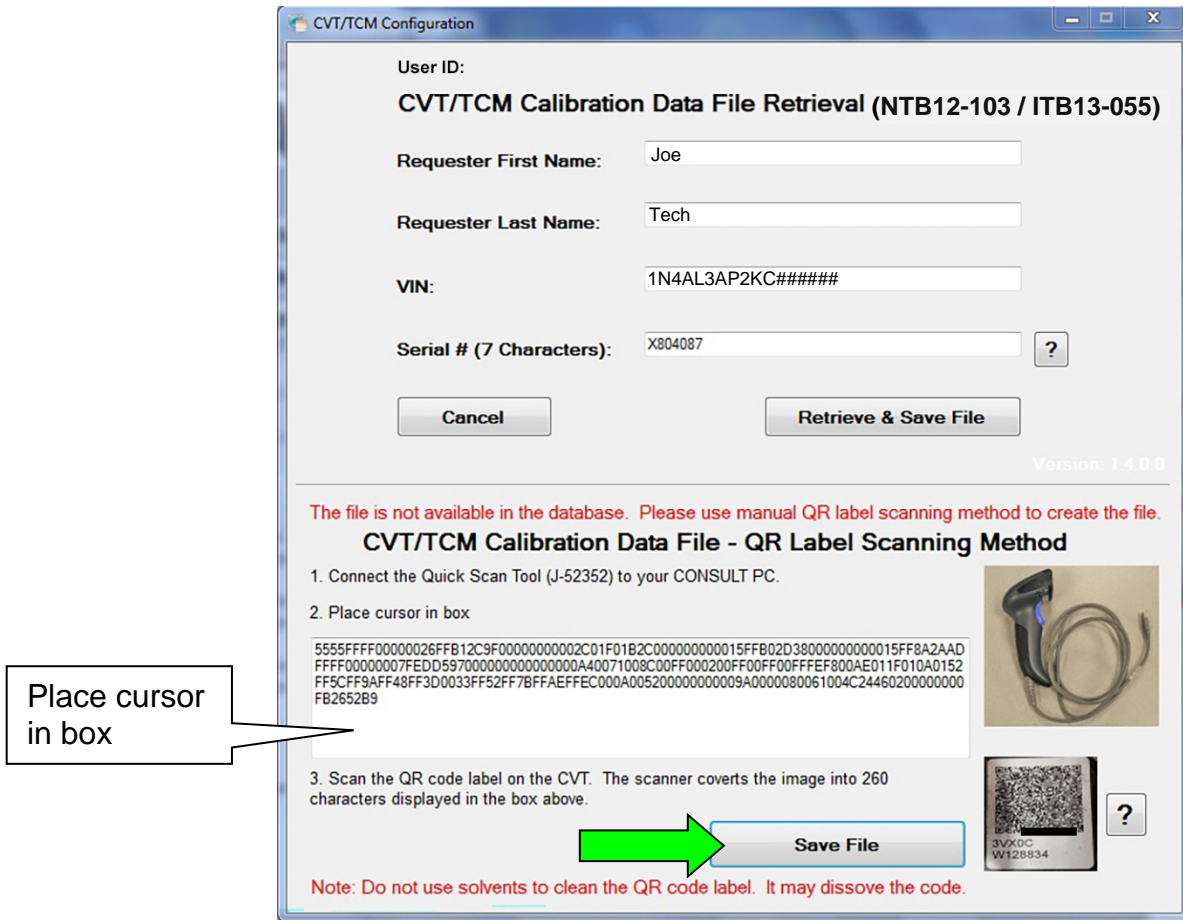

Figure 32
56. Place the cursor in the box shown in Figure 32, and scan the **NEW** QR label.